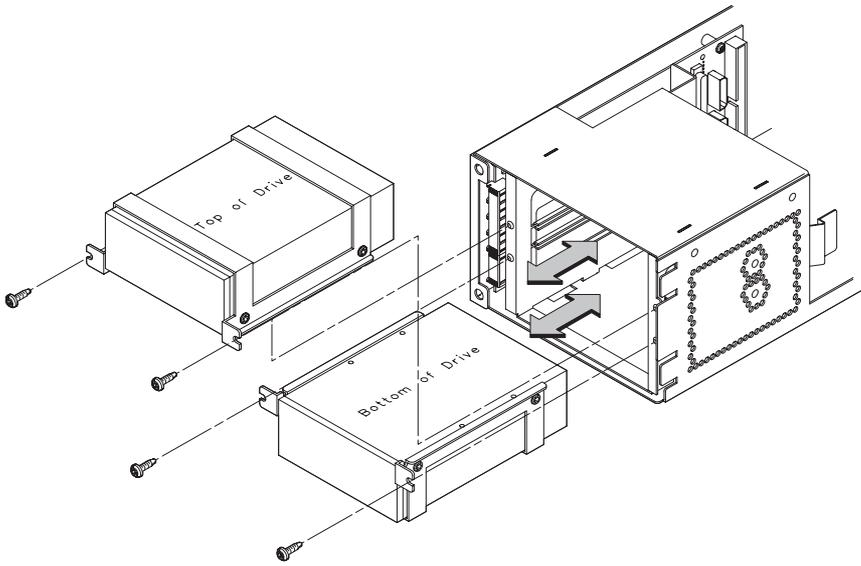

Figure 5-51. Placing Hard Drives in Storage Drawer
2. Figure 5-51 shows two drives and their orientation in the Storage Assembly. The drives are installed with the bottom of each drive (the part of the drive that shows the printed circuits) facing towards the middle.
3. With the disk mounting bracket between the guides on each side of the Storage Assembly, slide the disk into the Storage Assembly, securing it to the drawer with two side screws. See Figure 5-51.
1. Unscrew the captive screw holding the EMI divider at the back of the removable drives and lift the plate up and out of the drawer as shown in Figure 5-51